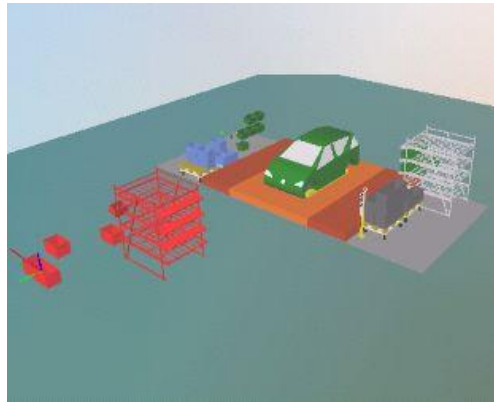

Figure 86: Entire Graphic Group has been Selected and Moved
- 1) In this example, the entire graphic group is moved. To edit an entire graphic group, select *Graphic Groups* in the bill of materials structure (left window). All created graphic groups will be displayed in the right display window. Select the graphic group (*New Graphic Group* in the example) you want to edit. *Please refer to the Figure 86*.